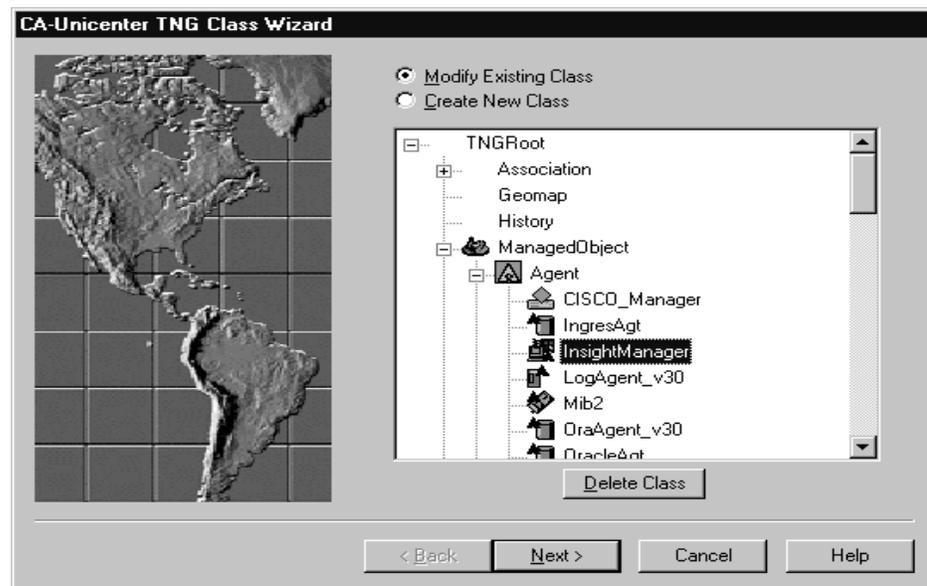

Figure 5-1. Window showing the Insight Manager Sub Class under the Agent Class
**NOTE:** This loads the entire definition. If this class is already defined, you will not receive an error message, even though the command has done nothing. It will not destructively overlay the previous installation of this class. If it is necessary to reload this class, first delete the class using the Unicenter TNG Class Wizard. The class 'Insight Manager' is found under the Agent subclass as shown in Figure 5-1.